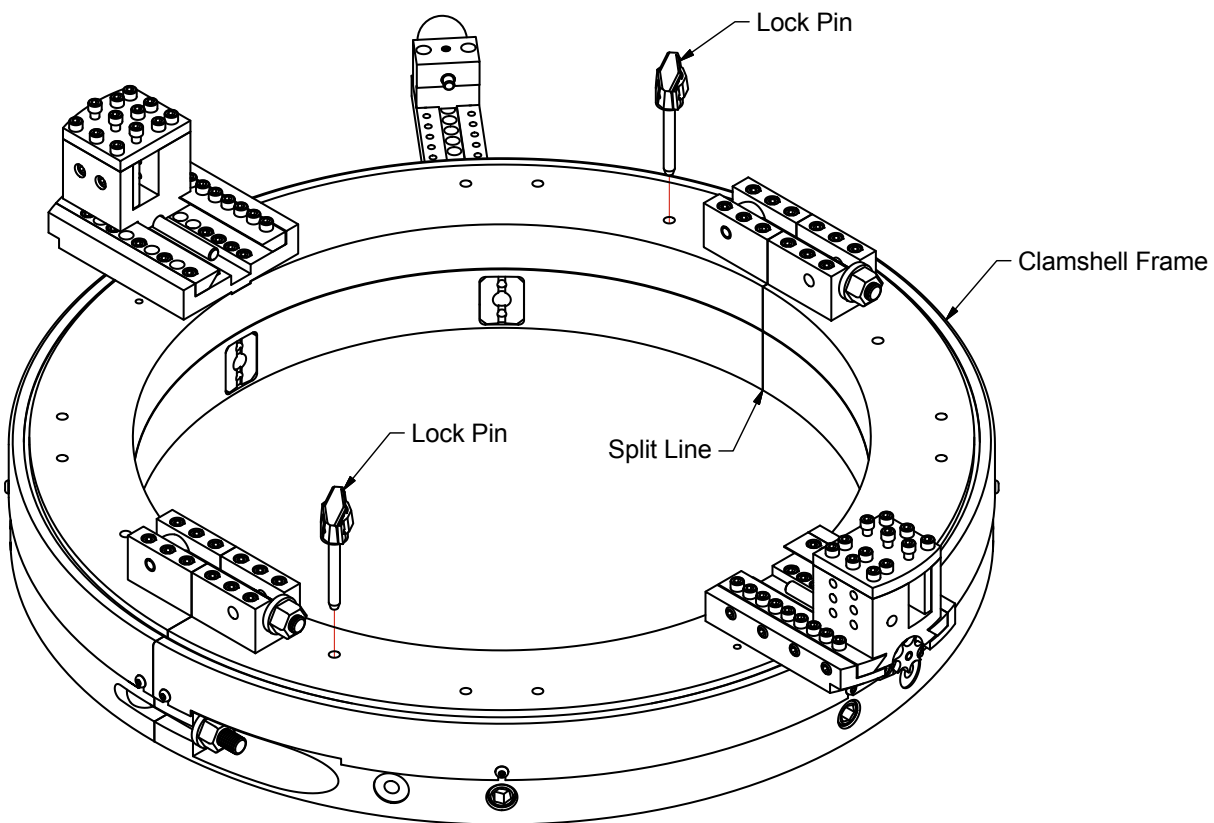

Figure 2-1 – Install Lock Pins
1. Rotate the clamshell gear to align the gear and housing split lines. Lock the gear and housing in place by inserting two lock pins through the holes on the face of the clamshell. If the gear holes do not line up with the housing holes, rotate the gear 180°. See Figure 2-1.